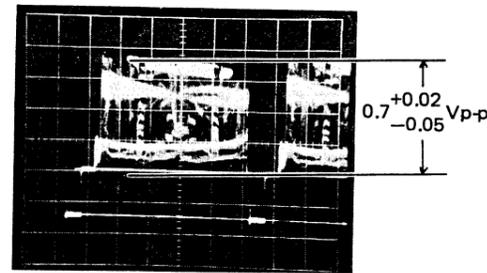

Fig. 10
- Adjust TARGET VR202 so that the video signal level is $0.7 \pm 0.02_{-0.05}$ Vp-p. (Fig. 10)